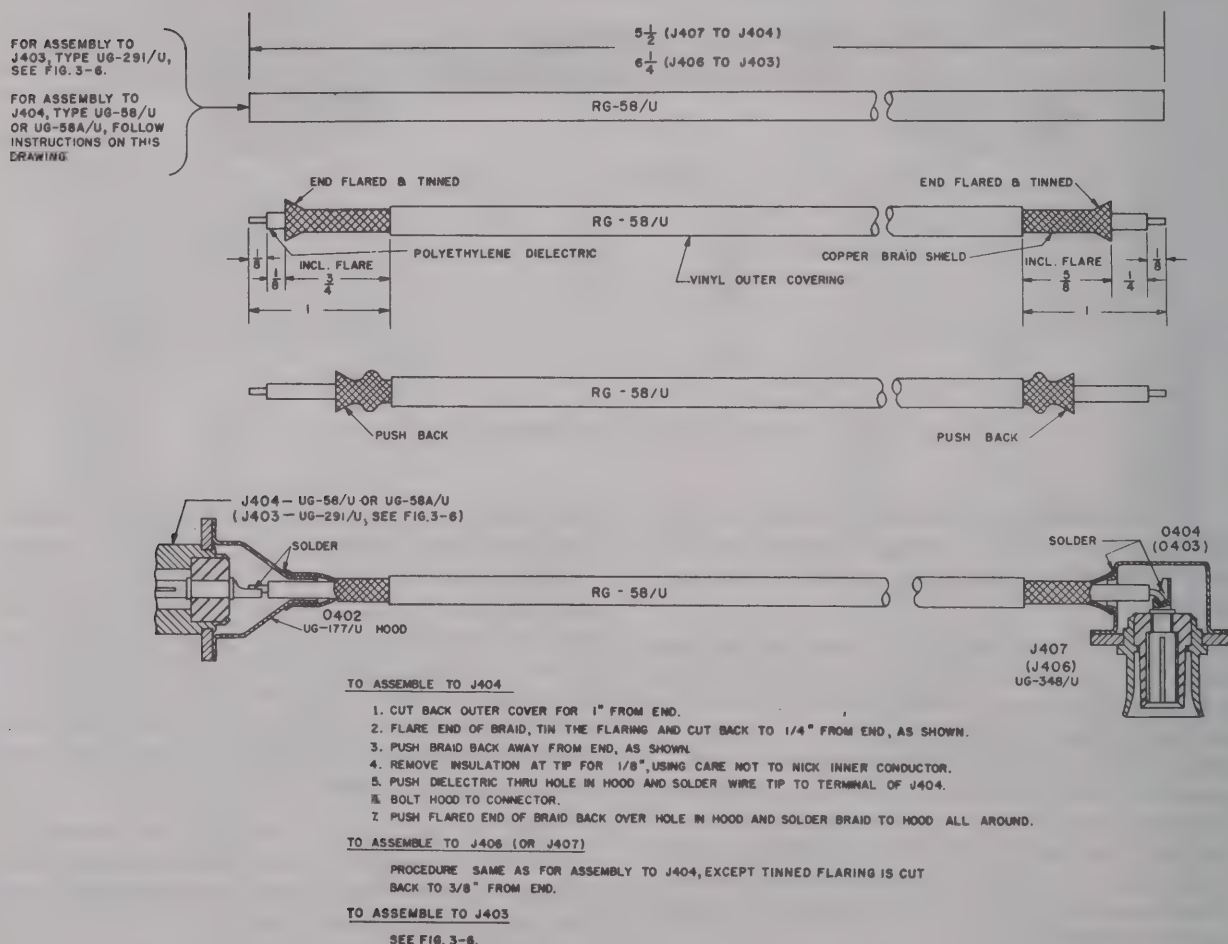

Figure 7-22. Assembling R-F Cable to Connectors J403, J404, J406 and J407
b. R-F CABLE ASSEMBLIES.—Several r-f cable assemblies are used in Radio Receiver R-482/URR-35 and in Low-Pass Filter F-218/URR-35. Unless subjected to physical abuse or abnormal conditions of operation, these cables should not require repair or replacement. However, in the event that replacement is found necessary, detailed instructions for the fabrication of the cable assemblies are included in figures 7-22 through 7-25, inclusive. Fabrication instructions for the external r-f cables used with the receiver appear in figures 3-6 and 3-7.